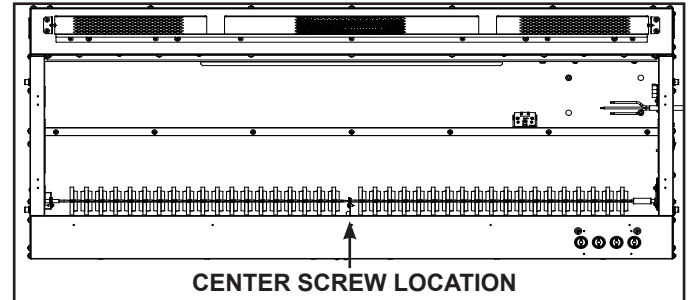

Figure 17. Rotisseire Screw Location
- Remove the center screw located in the center of the Rotisseire. Number of center supports may vary. See Figure 17.